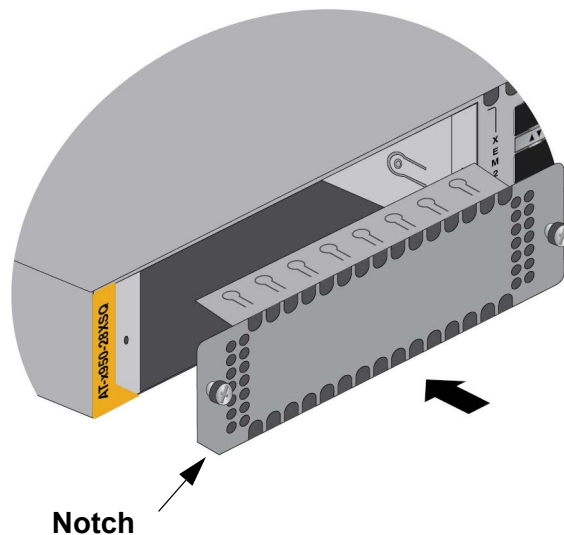

Figure 128. Installing the Line Card Blank Cover
9. Orient the blank cover as shown in Figure 128, with the notch on the bottom left, and slid it into the slot.